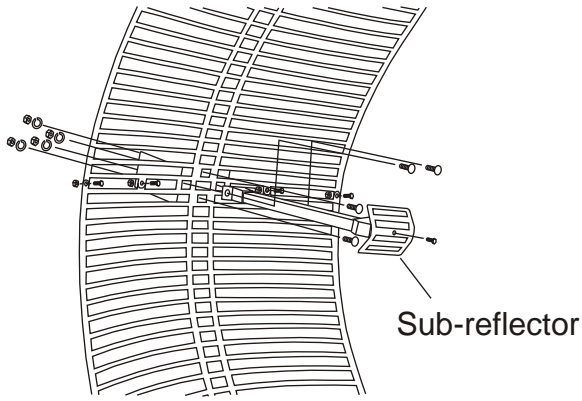

Figure 4
2. Place the sub-reflector on the front of the feed and secure with the #6 x 1/2" stainless screw. (Figure 4)
4. Place the "L" bracket on the back of the antenna. Insert 2 of the 4 carriage bolts from the front to attach. (Fig. 4) Secure on the back with the lock washers and nuts.
6. Pull the coax through the antenna and the "L" bracket opening. Attach the feed on the front with the other 2 carriage bolts. Secure on the back with the lock washers and nuts. (Fig. 4)